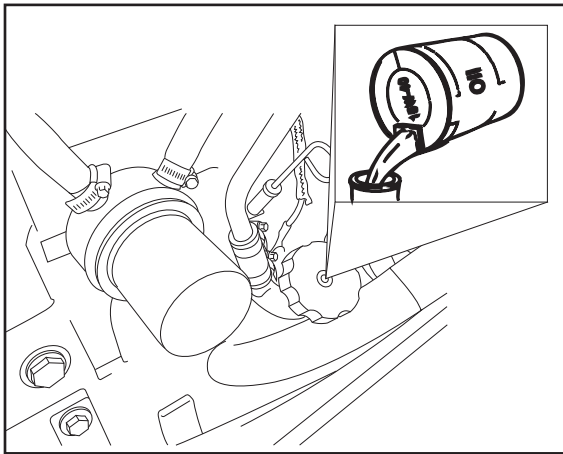

Fig. 108
- Fill in new engine oil (Fig. 108).